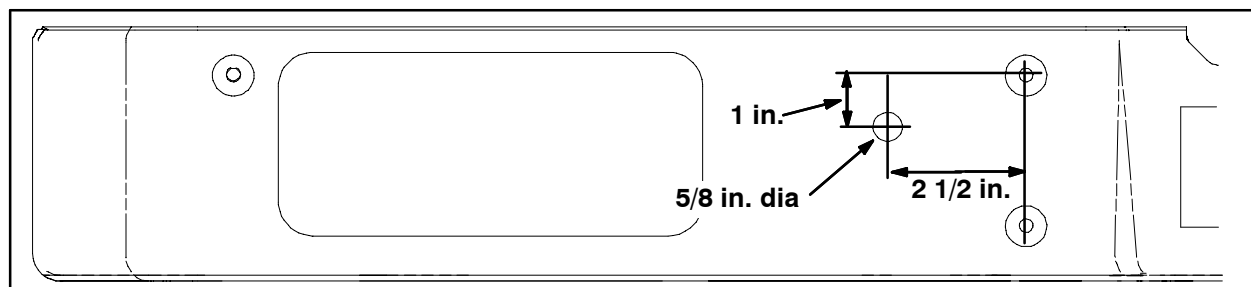

FIG. 2-Upper Control Panel
2. Drill a 5/8 in. hole through the upper control panel and the metal backing behind the upper control panel. Refer to Fig. 2.